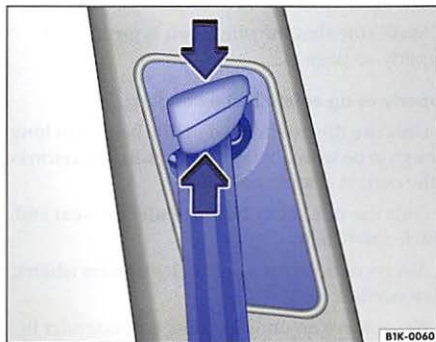

Fig. 54 Next to the front seats: Safety belt height adjuster.
- Pinch the safety belt attachment together as indicated by the arrows and hold ⇒ **fig. 54**.